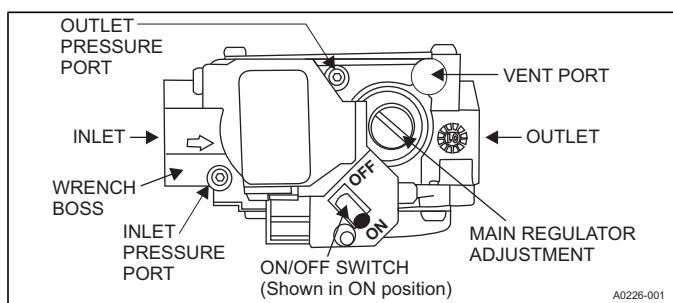

FIGURE 33: Gas Valve
Inlet and manifold gas pressure may be measured by connecting the "U" tube manometer to the gas valve with a piece of tubing. Follow the appropriate section in the instructions below. Refer to Figure 33 for the locations of the pressure ports on the gas valve.
Connect the positive side of the manometer to the IN P Tap on the gas valve. Do not connect any tubing to the negative side of the manometer, as it will reference atmospheric pressure. Refer to Figures 33 and 34 for connection details.
Connect the positive side of the manometer to the OUT P Tap on the gas valve. Do not connect any tubing to the negative side of the manometer, as it will reference atmospheric pressure. Refer to Figures 33 and 34 for connection details.
- Refer to Figure 33 for location of pressure regulator adjustment cap and adjustment screws on main gas valve.